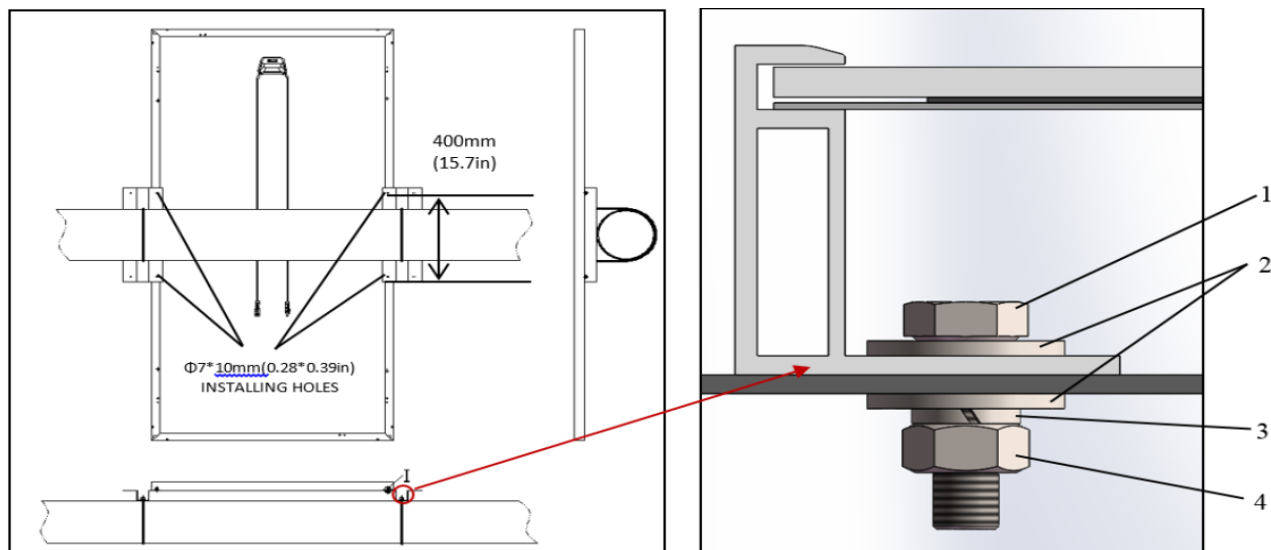

图3. 通过单轴跟踪方式安装的PV组件 PV modules installed by single-axis tracking
- 每个组件的边框上有4- $\phi$ 7\*10mm (0.28\*0.39英寸) 的安装孔，具体位置如图3所示。
- 使用M6螺栓、两个平垫圈、一个弹簧垫圈和螺母在每个固定位置如图3所示固定组件。
The specific location is shown in Figure 3.
Use M6 bolts, two flat washers, a spring washer and a nut to fix the modules at each fixing position as shown in Figure 3.